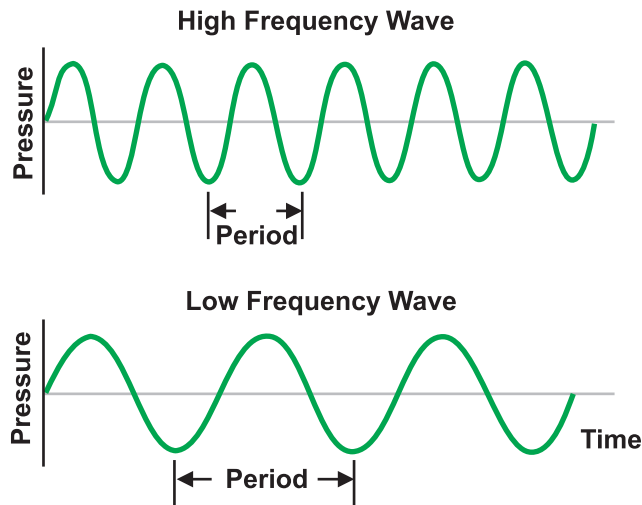

Figure 6.3: High frequency and low frequency waves
2. Frequency: Frequency refers to the number of waves that pass through a given point in space every second as shown in Figure 6.3.
If you look at the diagram in Figure 6.3, the wave on top has a greater number of cycles within the same distance as compared to the lower wave. Thus, you will see that if we choose any one point on the horizontal line, and imagine both waves moving to the right at the same speed, more cycles of the wave on top will have passed that point after one second than for the lower wave. The upper wave could thus be said to have a 'higher frequency' and the lower wave a 'lower frequency'.